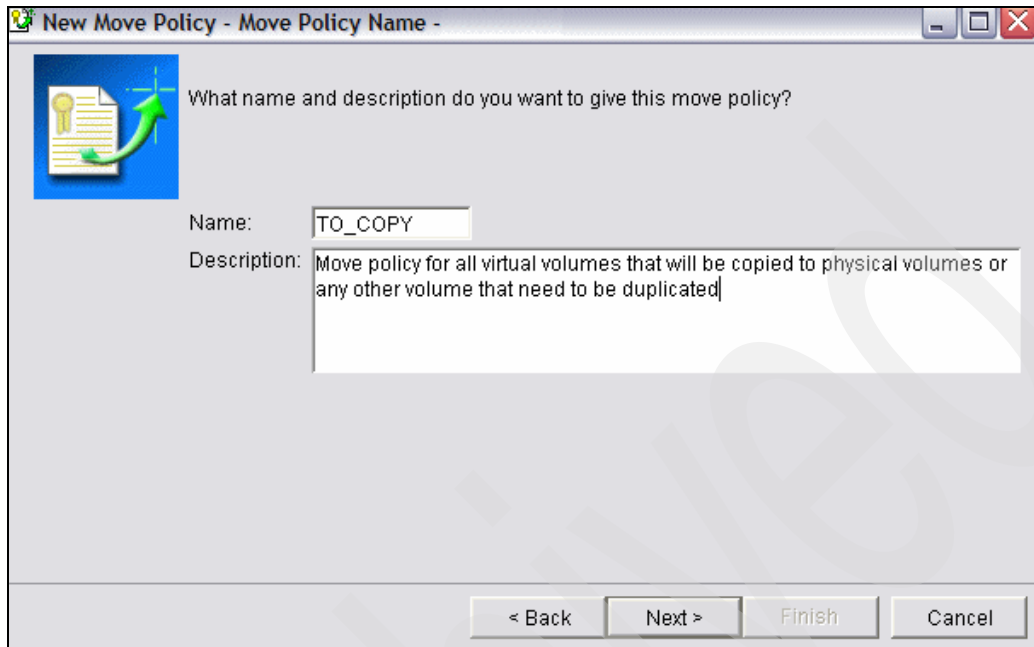

Figure 7-5 New move policy
2. In the window that appears, as shown in Figure 7-5, fill in the policy name as TO_COPY.